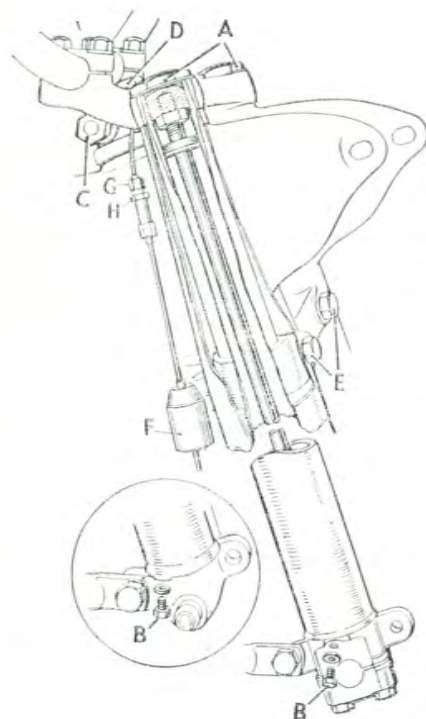

FIG. 28.
The main adjuster is incorporated in the brake cable (Fig. 28). Slacken the locknut (H) and unscrew the adjuster (G) as required, afterwards locking nut (H) securely. A finger adjuster is provided at the handlebar lever.
Unscrew the nuts (A) Fig. 28, and the drain plugs in the lower end of the fork sliding members as shown at (B). Allow all the oil to drain out, then standing astride the machine, apply the front brake and depress the forks a few times to drive out any oil remaining in the system.
Slacken the clamping nuts (C) and (E) Fig. 28, then tighten down the cap nut (D) below the handlebars until the adjustment is correct. Hold the handlebars lightly and move them round slowly. The steering must be free, and the forks must rotate smoothly. If the movement is 'lumpy' it is a sign that the adjustment is too tight or that the ballraces are damaged. When the adjustment is correct, tighten the clamping nuts (C) and (E). The latter clamp the fork shafts and must be quite tight.